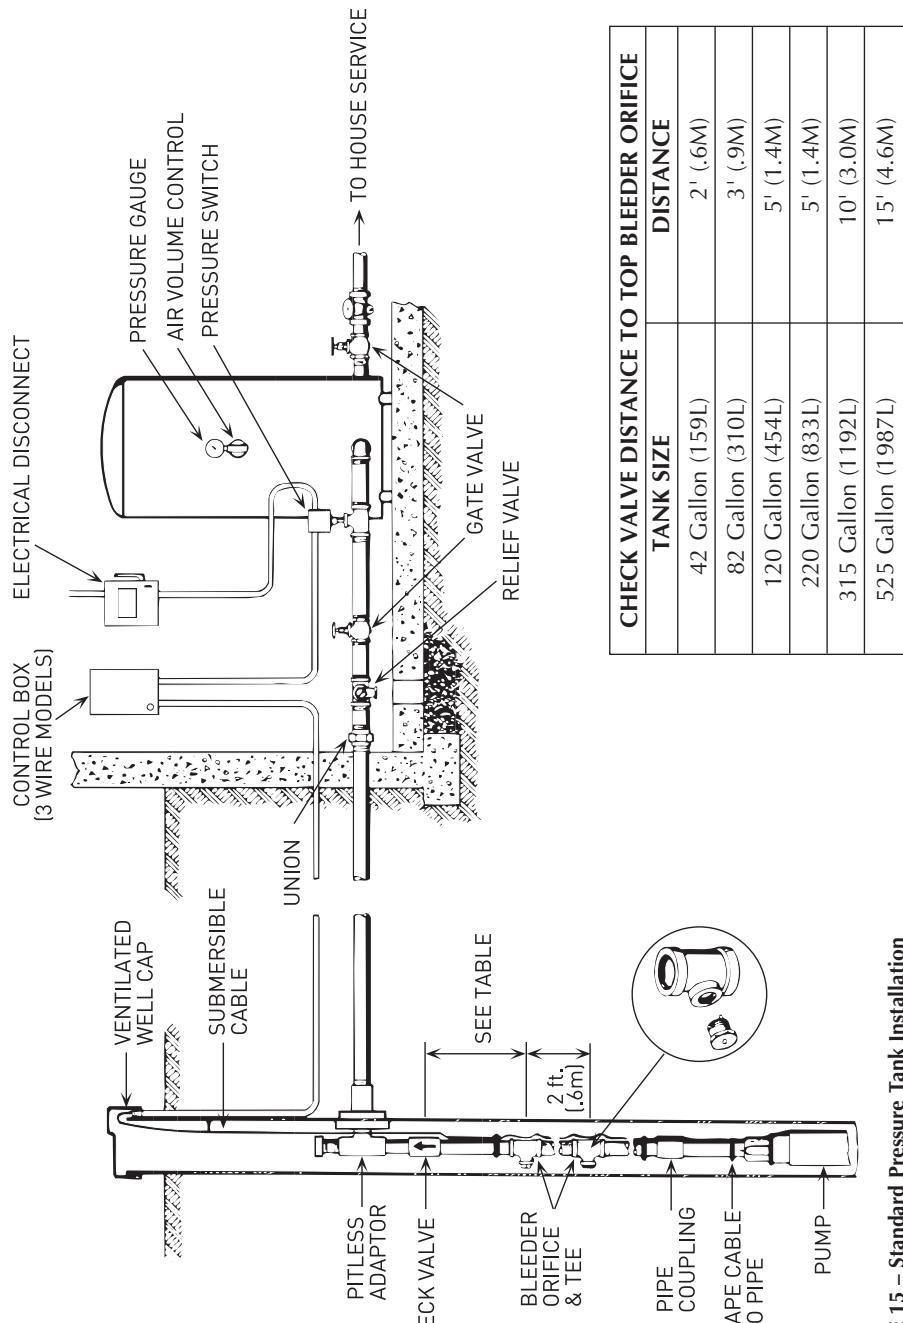

FIGURE 15 – Standard Pressure Tank Installation
1. If a standard air over water pressure tank is being used, install two bleeder orifices about 2' (.6M) apart as shown in Figure 15, Page 21. These orifices will automatically charge the tank with air. See Figure 15 to determine orifice location.
See Figure 15, Page 21 for piping connections to standard pressure tank and for correct distance of bleeder orifices from pressure tank.